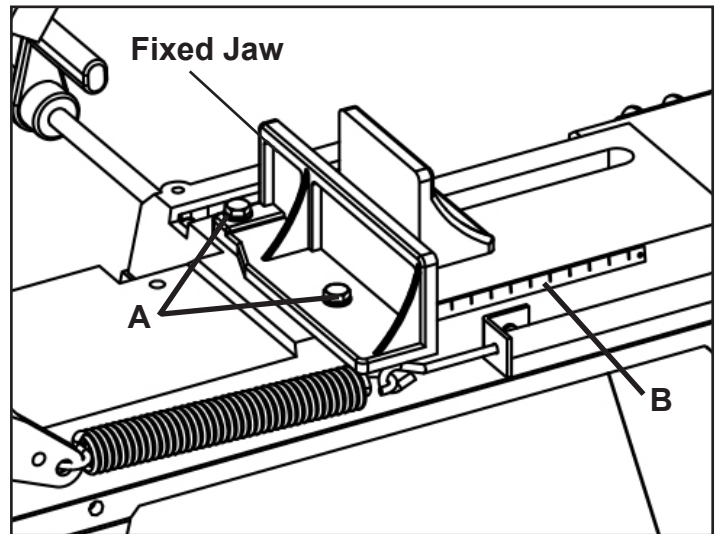

FIGURE 11
1. Loosen the two hex bolts on the fixed jaw (A-Fig. 11).
2. Position the fixed plate until it reads 0° on the scale (B-Fig.11) and tighten the two hex bolts.
2. Position the fixed plate until it reads the desired degree angle on the scale (B-Fig.11) and tighten the two hex bolts.